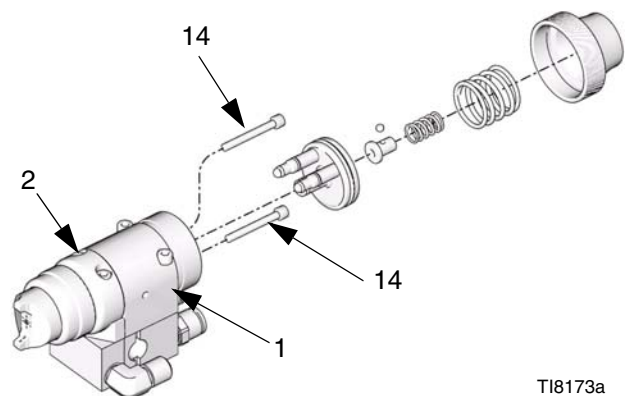

FIG. 20
9. Remove the piston. Using a pliers, pull the piston (3) out of the piston housing (1). See FIG. 20.
10. Unscrew the two screws (14) and separate the fluid housing (2) and the piston housing (1). Remove gasket (12) only if it needs to be replaced. See FIG. 20.